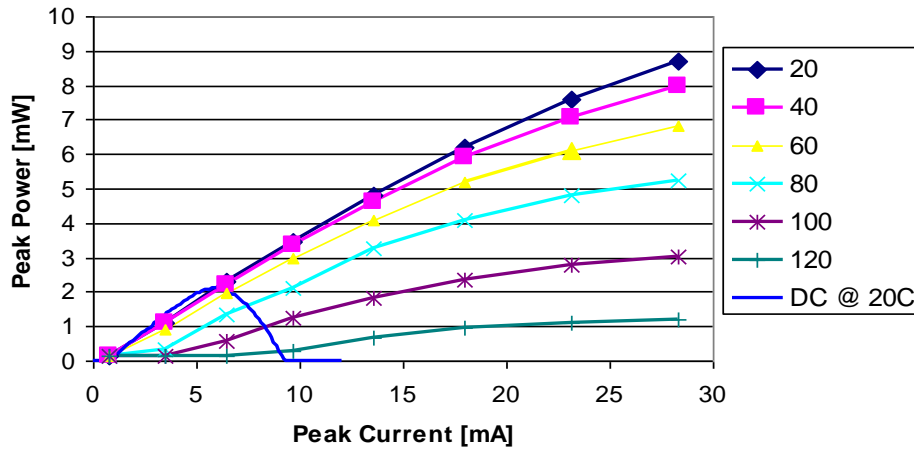
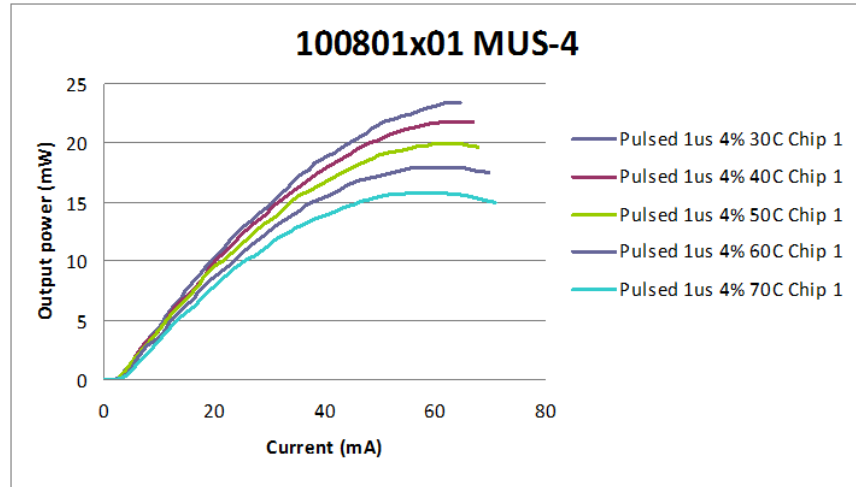

Figure 3: Peak Pulsed Power Characteristics Over Temperature for a 670 nm SM VCSEL
Figure 10: Peak Pulsed Power Characteristics for Vixar's MM VCSELs over Temperature for 1µsec pulse width and 4% duty cycle.
The thermal heating of the junction can be reduced by application of short current pulses with a duty cycle less than 100%. The reduced junction heating results in significantly increased optical output power. An example of the peak pulsed power characteristics for a 670 nm single-mode (SM) VCSEL over temperature is provided in Figure 3 for pulsed conditions of 50 ns at 1% duty cycle. Notice that the LI (power L versus current I) curve for the same device under DC or CW operation at 20C is superimposed (Blue Curve). For DC operation P_{max} is about 2 mW at $I_{max} = 7$ mA. When driven under short-pulse low duty-cycle conditions the pulsed thermal roll over point is not reached up to currents of 28 mA, except at the highest temperatures of 100C or 120C.
It should be noted that the peak pulsed power of Figure 3 was measured by using an average power meter, recording the time averaged power, and dividing the average power by the duty cycle to arrive at the peak power.
Most of the data presented so far, was taken from Vixar's Single Mode (SM) 670nm VCSELs that exhibit peak pulsed power levels between 4 mW and 8 mW, depending on the pulse conditions. However, significantly more pulsed power (20 mW) can be delivered from Vixar's Multi-Mode (MM) VCSELs as illustrated in Figure 10. Again, these pulsed power curves were taken over a range of temperatures (similar to Figure 3).